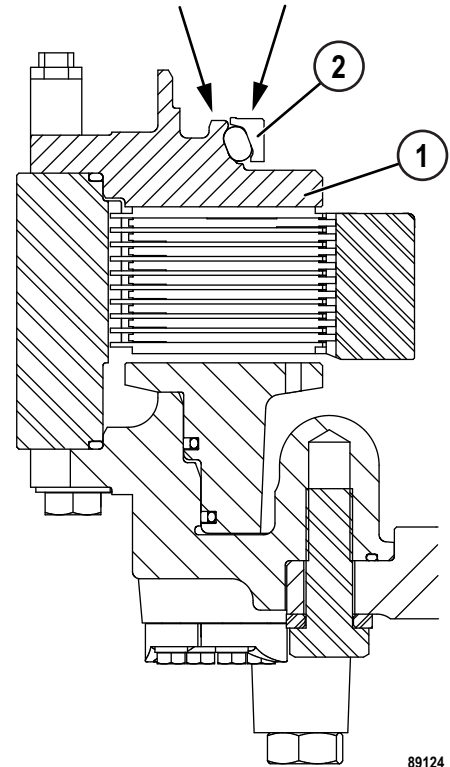
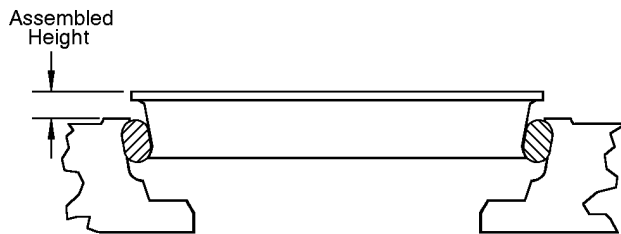

FIGURE 5-28. CHECKING SEAL HEIGHT
FIGURE 5-26. CHECKING SEAL RING
12. Use a caliper to measure the assembled height (Figure 5-26). Check the seal height variation (marked by arrows, Figure 5-28) between seal ring (1) and the back plate (2). Check the assembled height in four places that are 90° apart. The height variation around the assembled ring must be less than 1.0 mm (0.04 in).